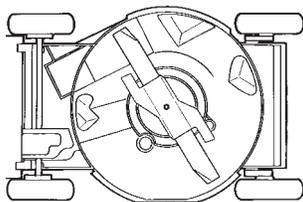

Figure 21
4. Tip the lawn mower onto its left side (Fig. 21).